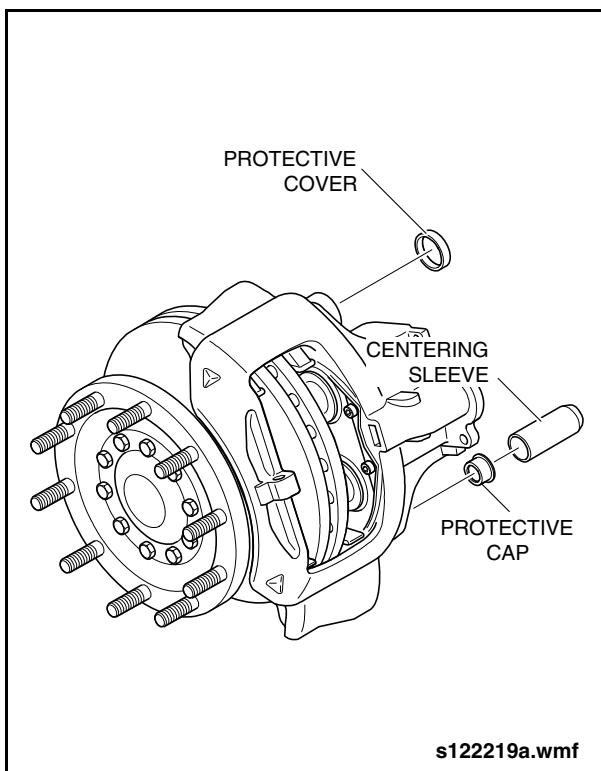

Fig. 1-66: Protective Cover & Cap Installation
10. Use centering sleeve (Item 76 from special tools list) to install protective cap into caliper at the lower guide pin location. Drive cap into place until centering sleeve stop is contacted. See "Fig. 1-66: Protective Cover & Cap Installation" on page 66.